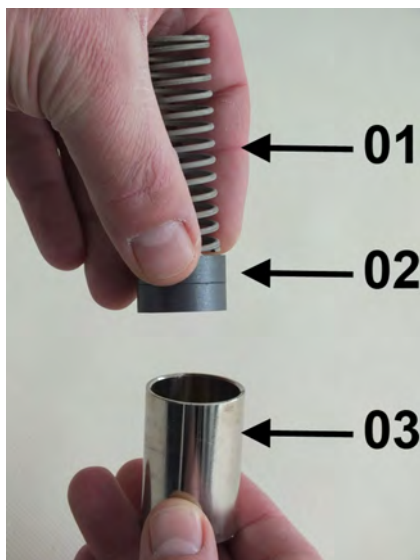

Fig. 44: Inner parts
4. ➤ Insert the spring (Fig. 44/01) and magnets (Fig. 44/02) into the float (Fig. 44/03) ensuring correct polarity (north pole toward device outlet).